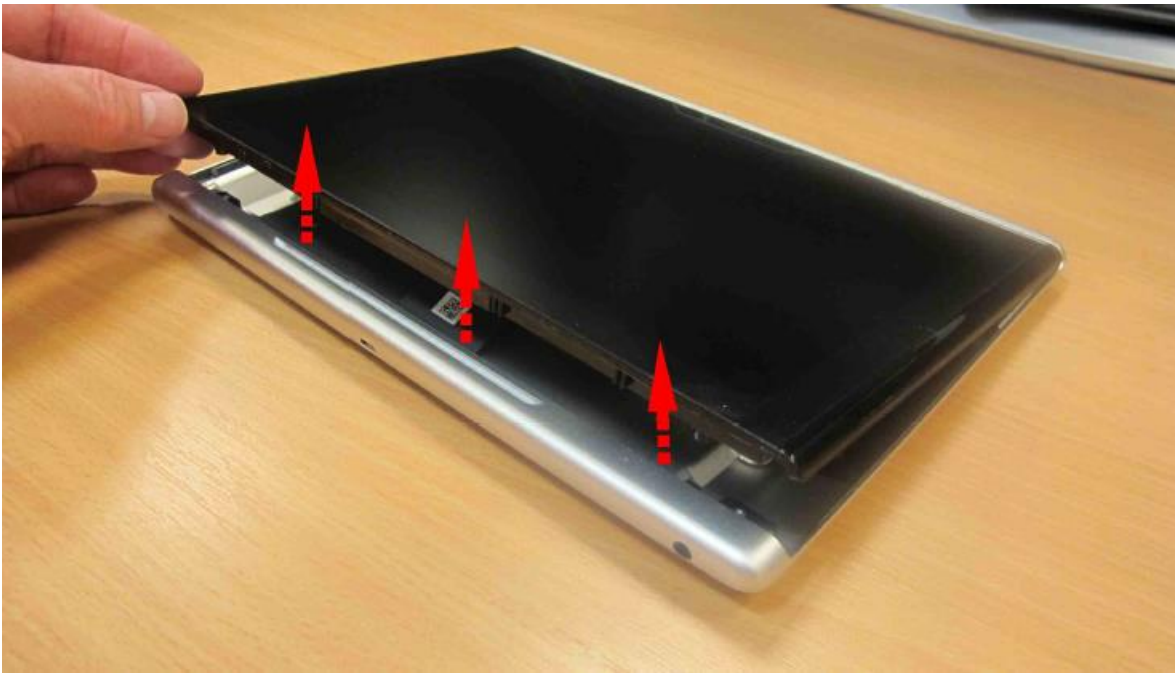

Figure 9.
- Carefully lift the Tablet screen up to a maximum of twenty millimetres from the lower edge of the casing – figure 9.